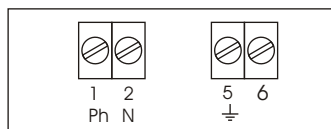

Fig.10
- 1- Connect the power supply (230 Vac) to the terminal blocks (fig. 10):